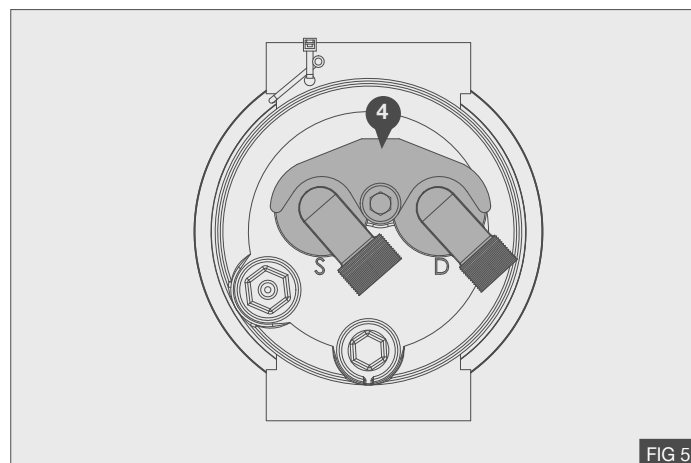

FIG 5
1. Install the supplied compressor manifold ④ in the orientation shown opposite. Torque the securing bolt of the manifold ④ to 34 Nm / 25 lb ft – Fig 5